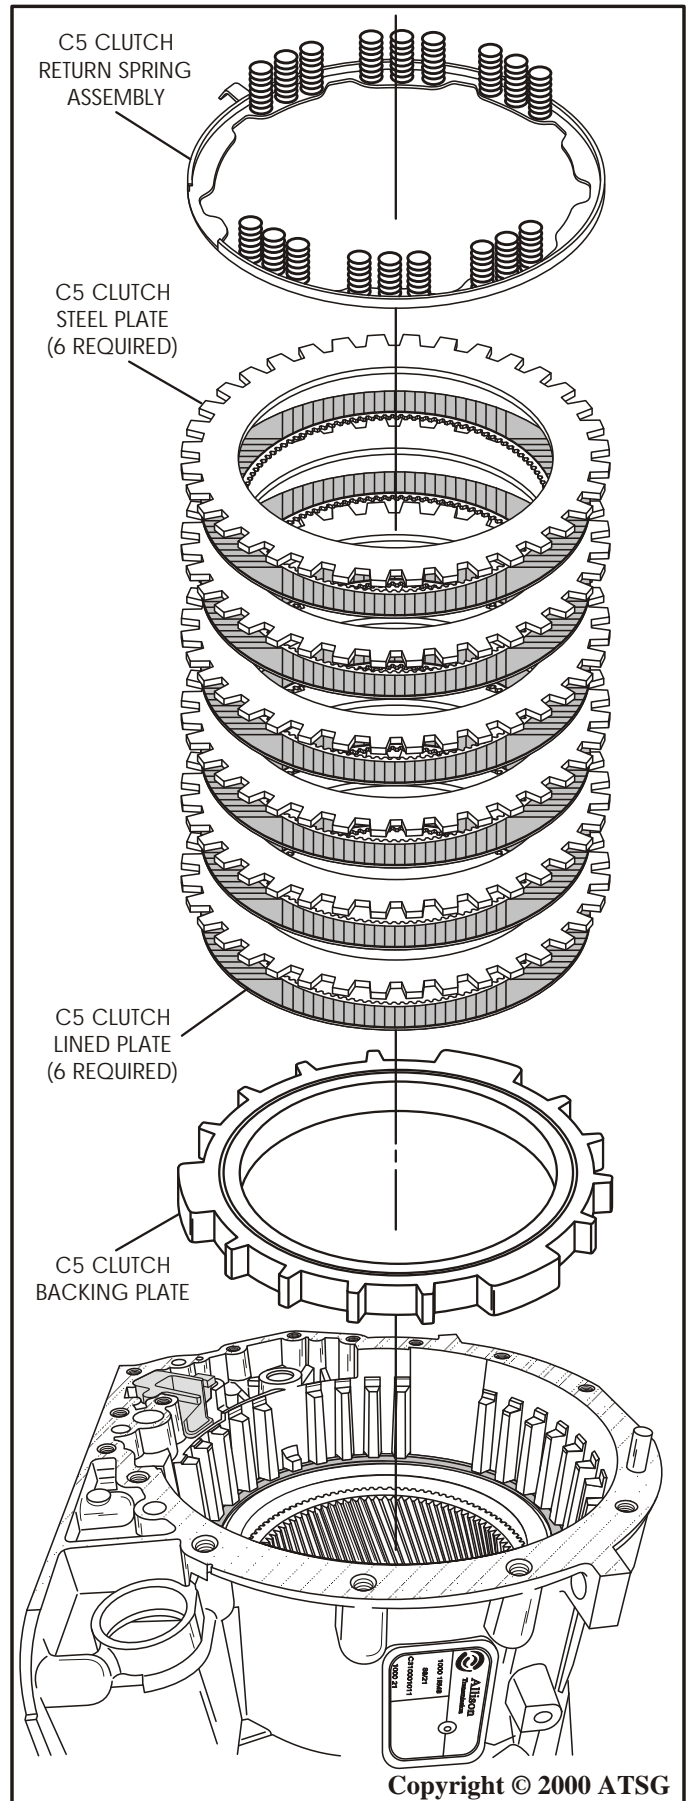

Figure 154
16. Install the C5 clutch backing plate in the case in direction shown in Figure 154.
17. Install C5 clutch pack beginning with a lined plate and alternating with steel plates until you have installed six of each (See Figure 154).